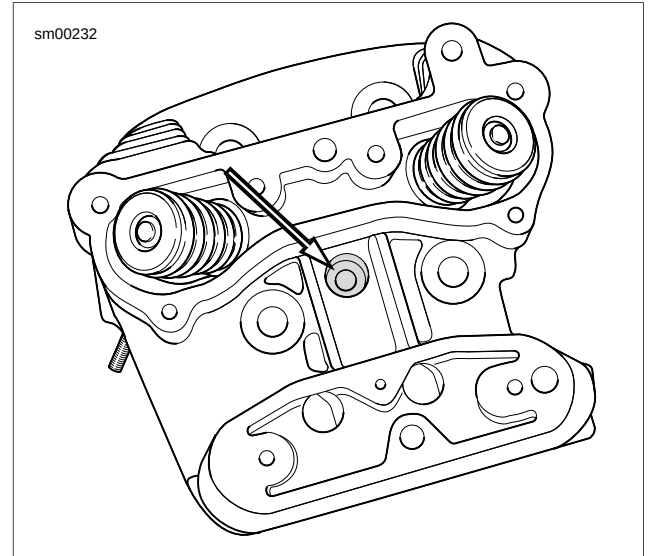

Figure 4-16. Location of Engine Temperature Sensor in Rear Cylinder Head
- 1. See Figure 4-16. Screw sensor into rear cylinder head.